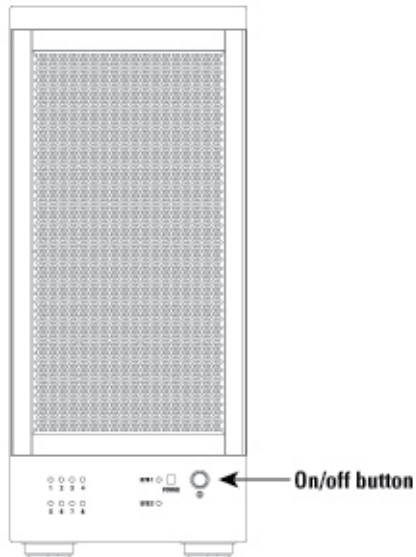

Fig. 20
4. Switch on the device (fig. 20).